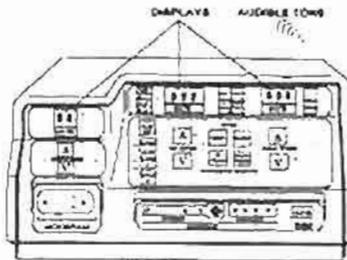
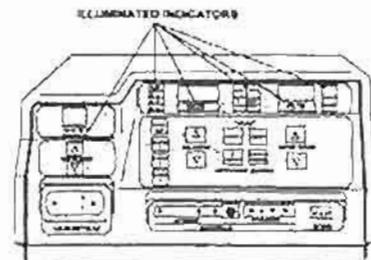

Figure 3-40. Self-test displays.
Figure 3-41. Self-test illuminated indicators.
(9) Observe the control panel. The following control panel actions will automatically occur (fig 3-40 and fig 3-41).